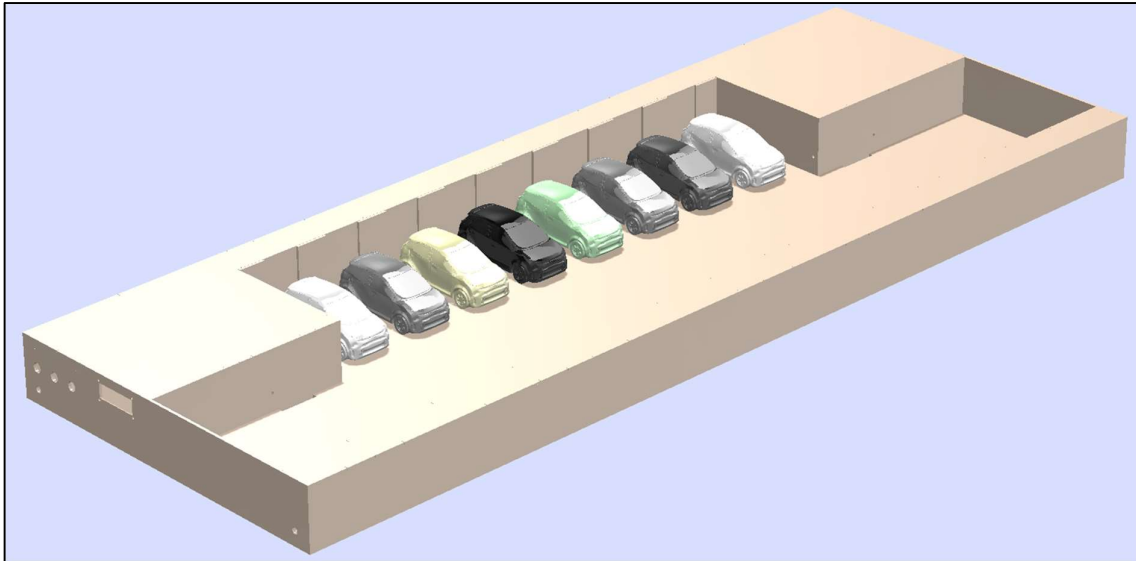

Fig. 2. Rendering showing what the dummy car placements will be like
- f. The SSV shall not have a differential drive arrangement (not to be confused with the use of differential gearbox) where one wheel is driven intentionally at a rate different from the other wheel on the same axle that causes the chassis to pivot with a sharper turning radius (see Fig 2 for an example of differential drive robot)